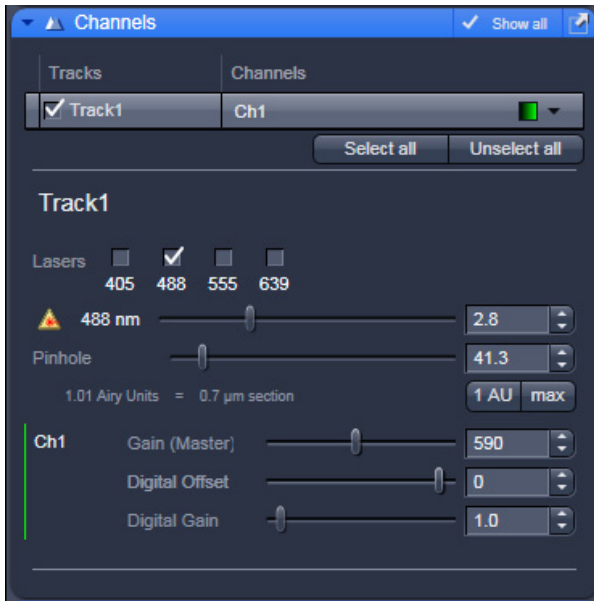

Fig. 5-115 Channels tool
- On the **Channels** tool in the LSM **Online Acquisition** tool group select the pinhole diameter so as to have the best possible image contrast (see Fig. 5-115).